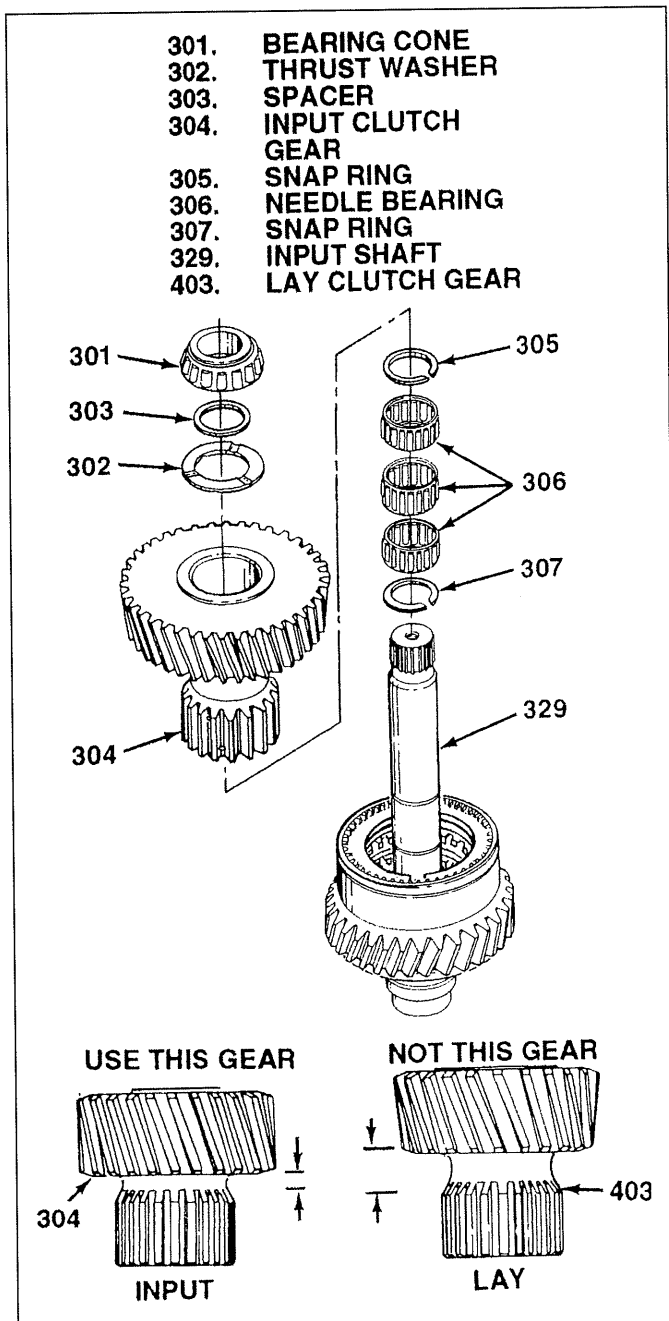

Figure 5-8: Input Clutch Gear and Bearings
5-11 ASSEMBLY OF CLUTCH GEAR AND BEARINGS With shaft assembly in holding fixture as described in paragraph 5-9, proceed as follows (see figure 5-8):
1. Install snap ring (307) on input shaft (329).
2. Select input clutch gear (304)— not lay clutch gear (403) (see figure 5-8). Align splines on clutch discs